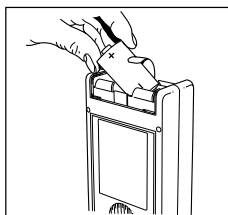

Fig. 19
- Insert the new battery over the tab, ensuring that it is in the correct position (see Fig. 19).